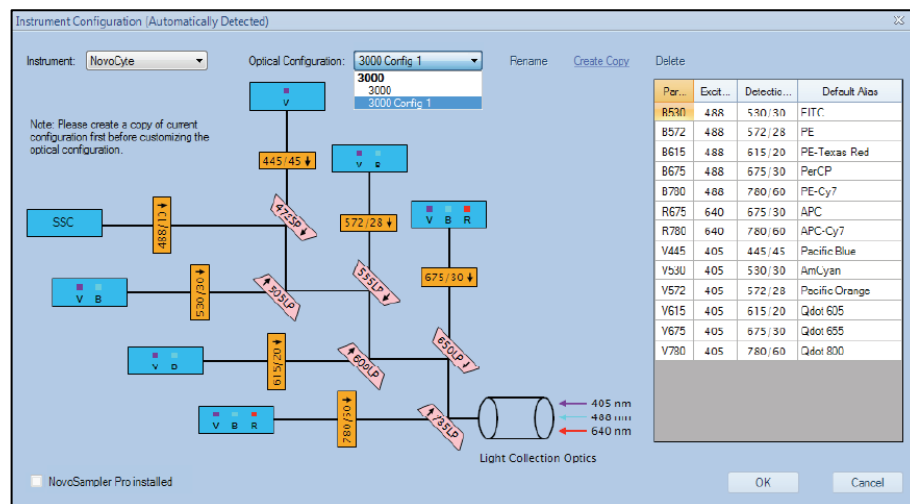

Figure 28. Instrument Configuration Window
- 2 Click the **Optical Configuration** panel. Click and select the desired optical configuration as shown in Figure 28. Click **OK** to continue.